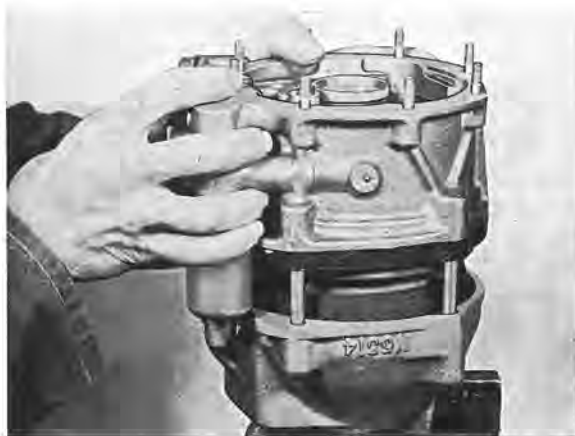

Fig. 4-50. Disassembling overdrive
3. Unscrew the nuts holding the brake ring, front and rear casing. Loosen the nuts successively all round in order to avoid any distortion from the springs. Lift off the front casing and brake ring, see Fig. 4-50.